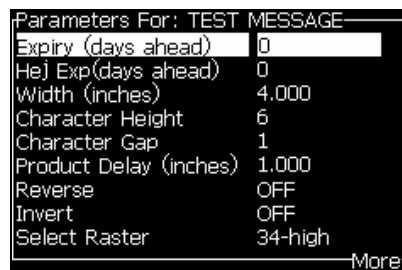

Figure 5-11: Message Parameters Dialog Box
- 2 Under the *Messages* menu, select the *Message Parameters* (Figure 5-11 on page 5-25) to edit the values.